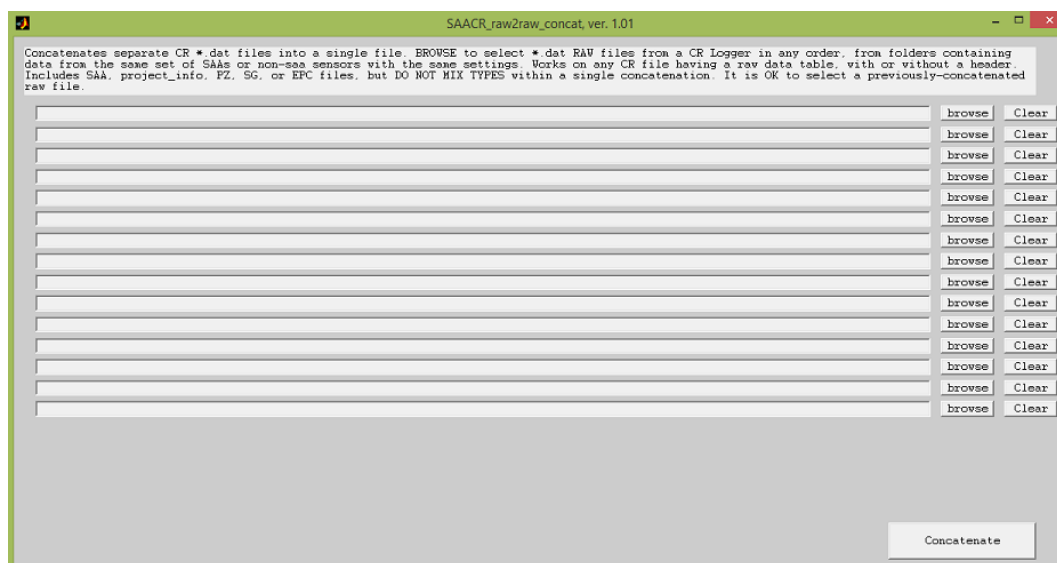

Figure A- 4: SAACR_raw2raw_concat 'Initial' window.
1. Start SAACR_raw2raw_concat (**Figure A- 4**).